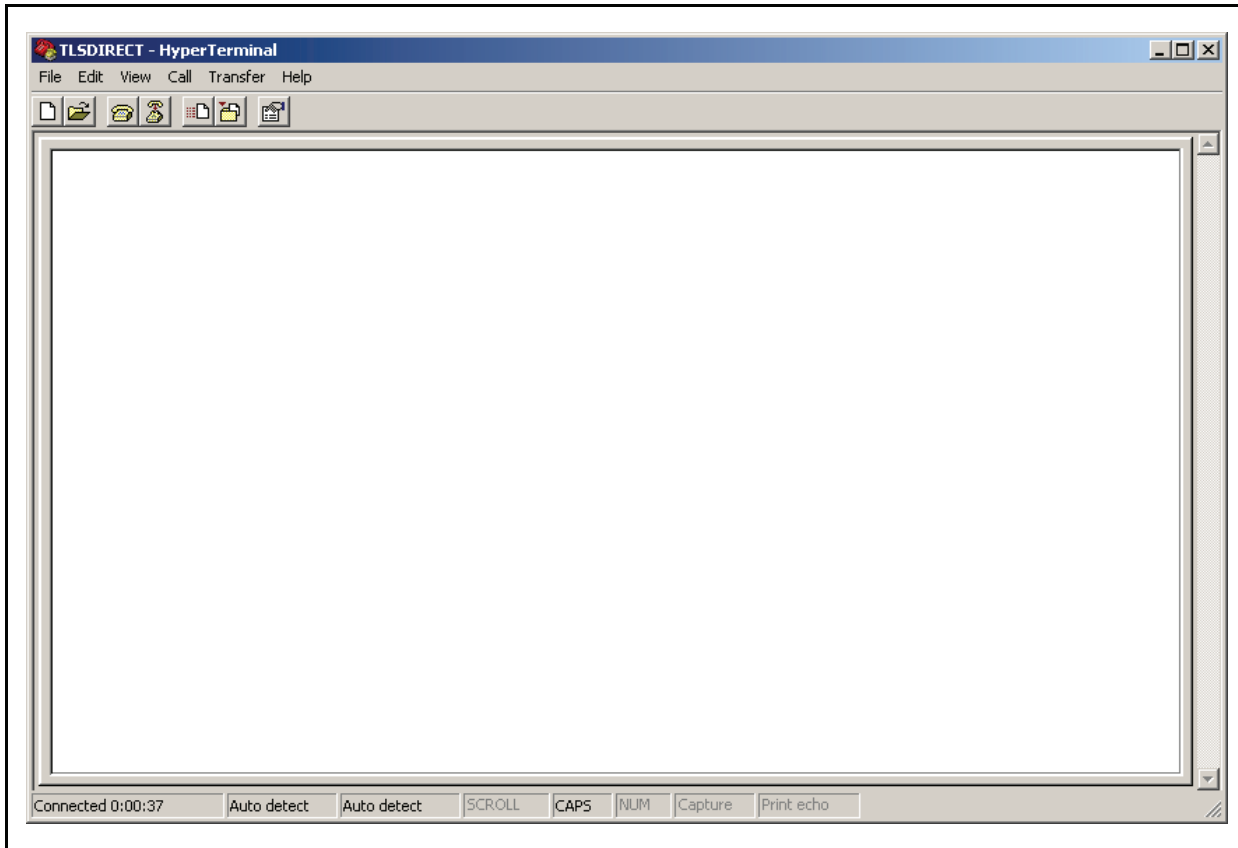

Figure 15. HyperTerminal main window
6. After entering your port settings, the program's main window appears (Figure 15).